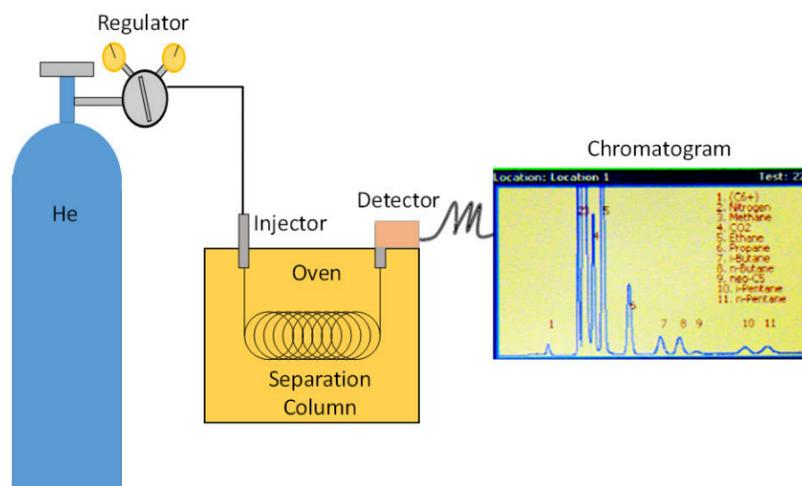

Figure 2. Gas chromatograph components
The Gas Processors Association (GPA) method 2261 describes the analysis of natural gas using a gas chromatograph (GC). A GC analyzer can be used to separate the components of a natural gas such that each major component can be quantified. A sample is injected into the GC analyzer and travels down a hollow tube (column) packed with an adsorbent using a flowing carrier gas (usually N2 or helium). The light components travel down the column more quickly and are “seen” first by the detector. Over the next few minutes, all the components exit the column and are measured by the detector. A diagram of the key components of a GC is shown in Figure 2.